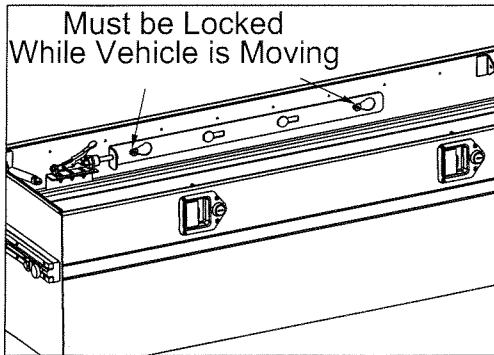
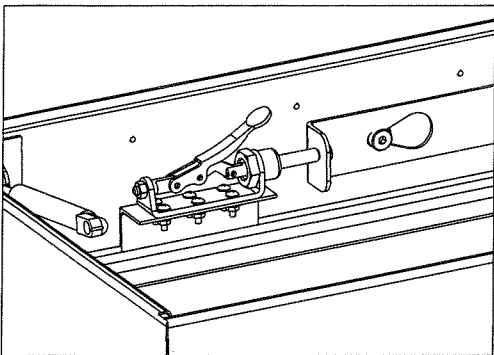

Fig. 13
Fig. 14
16. To lock the Tool Box (#1) into position, slide the Tool Box (#1) forward until it comes in contact with the Mounting Brackets (#2). Push the Tool Box (#1) toward the front from the center while pushing the lever down to slide the rear sliding bracket to lock around the shoulder bolts. (See Fig. 13 & Fig. 14)